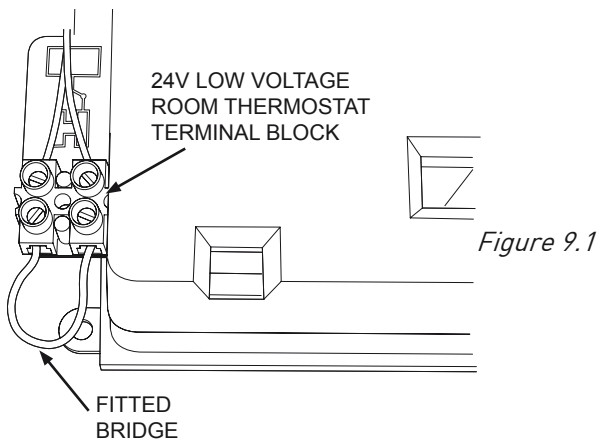
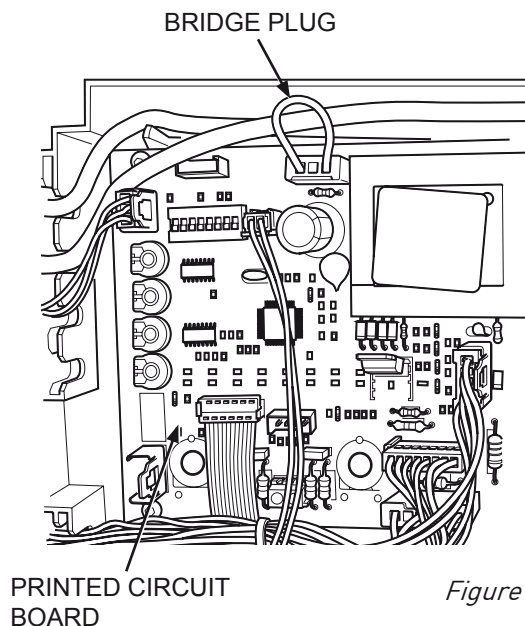

Figure 9.1
Figure 9.2
**Warning:** On no account must any external voltage be applied to any of the terminals on the heating control connection plug. Figure 9.1
**9.4** The low voltage room thermostat terminal block is located to behind of left side of the plastic cover (Figure 9.1) On connection of a voltage free room thermostat to the boiler, the factory fitted bridge across the room thermostat terminal connectors must be removed. If a mains voltage thermostat is to be used please refer to Figure 9.2.
**9.5** Mains powered thermostats must be connected directly to the mains circuit board as indicated in Figure 9.2 Cut the existing link and connect the wires into the thermostat circuit.